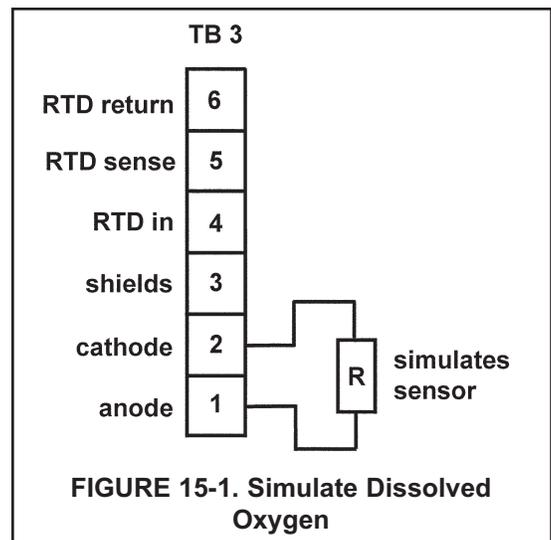

FIGURE 15-1. Simulate Dissolved Oxygen
- A. Disconnect the anode and cathode leads from terminals 1 and 2 on TB3 and connect a decade box as shown in Figure 15-1. It is not necessary to disconnect the RTD leads.